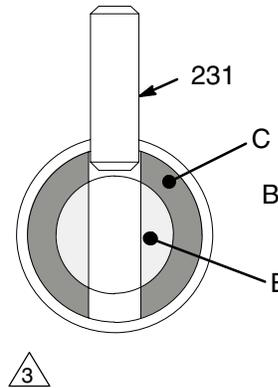

Fig 2 0407
2. Start the engine. Jog the pressure control ON/OFF switch until the connecting rod (C) stops near the bottom of the stroke and is fully exposed. See Fig 2. Shut off the engine.
5. Remove the outlet hose. Slightly loosen the two pump mounting screws (D). See Fig 2.
6. Use a small screwdriver to push in the connecting rod pin (231) just until you can gently pry the retaining ring (B) up from the back of the connecting rod. Push the pin in so it falls out the back.
1. Push the pin (231) just barely into the connecting rod (C), but not into the mating hole of the pump piston rod (E).
2. Pull piston rod (E) out of pump 2 - 3 in. (50-75 mm).
3. Align the flats of the piston rod (E) and the pump outlet. Lift the pump into position and gently push on the pin (231) while moving the pump slightly until the pin slips into the hole. Be sure the retaining ring (B) snaps down over the end of the pin.
4. Check the back of the bearing housing (A) to be sure the parts are installed properly.
5. Lift the pump to align the mounting holes and install the mounting screws (D). **IMPORTANT** – torque the screws to 20 ft-lb (27 N.m). See Fig 2.
Be sure the retaining spring (B) is firmly in the groove of the connecting rod (C), all the way around, to prevent it from working loose due to vibration. See Fig 2.